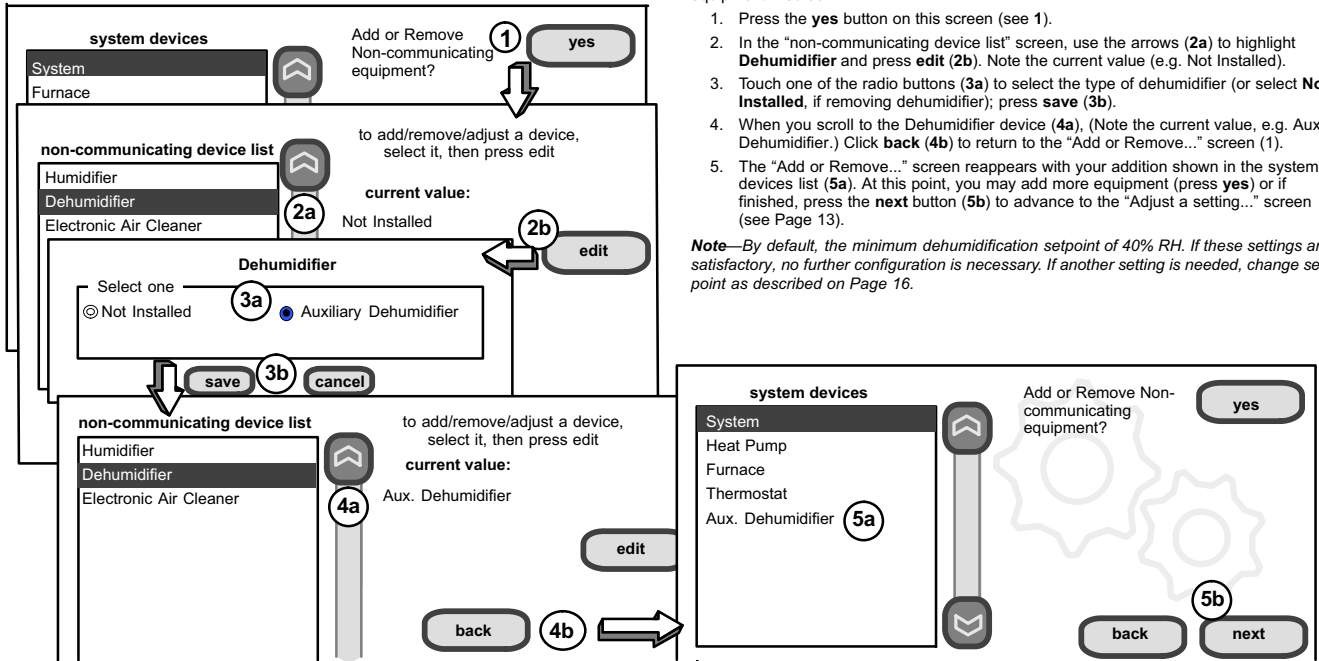

Figure 9. Add or remove non-communicating device—DEHUMIDIFIER
**Adding Dehumidifier**—The procedures in figure 9 describe adding a non-communicating dehumidifier controlled by the Comfort Sync™ thermostat through the “DH” output on the furnace or air handler.